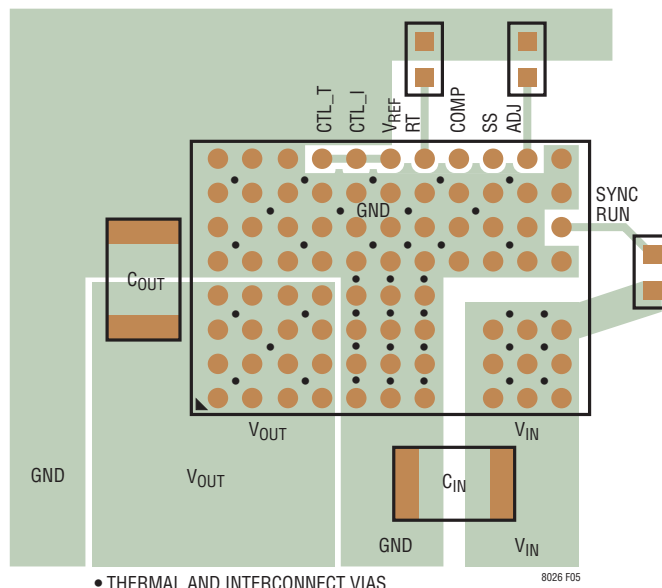

Figure 5. Layout Showing Suggested External Components, GND Plane and Thermal Vias.
Most of the headaches associated with PCB layout have been alleviated or even eliminated by the high level of integration of the LTM8026. The LTM8026 is nevertheless a switching power supply, and care must be taken to minimize EMI and ensure proper operation. Even with the high level of integration, you may fail to achieve specified operation with a haphazard or poor layout. See Figure 5 for a suggested layout. Ensure that the grounding and heat sinking are acceptable.
- Use vias to connect the GND copper area to the board's internal ground planes. Liberally distribute these GND vias to provide both a good ground connection and thermal path to the internal planes of the printed circuit board. Pay attention to the location and density of the thermal vias in Figure 5. The LTM8026 can benefit from the heat sinking afforded by vias that connect to internal GND planes at these locations, due to their proximity to internal power handling components. The optimum number of thermal vias depends upon the printed circuit board design. For example, a board might use very small via holes. It should employ more thermal vias than a board that uses larger holes.